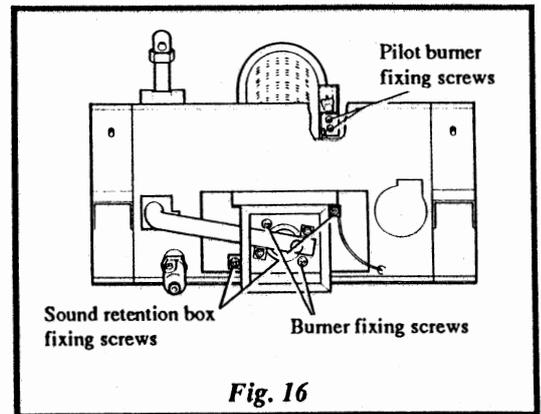

Fig. 16
15.2 To replace the burner - see Fig. 16.
2. Remove the two screws securing the pilot burner to the mounting bracket, see Fig. 16.
3. Remove the two screws securing the sound retention box, see Fig. 16 and remove the box.
4. Remove the two screws securing the burner to the boiler sealing plate, see Fig. 16 and remove the burner.